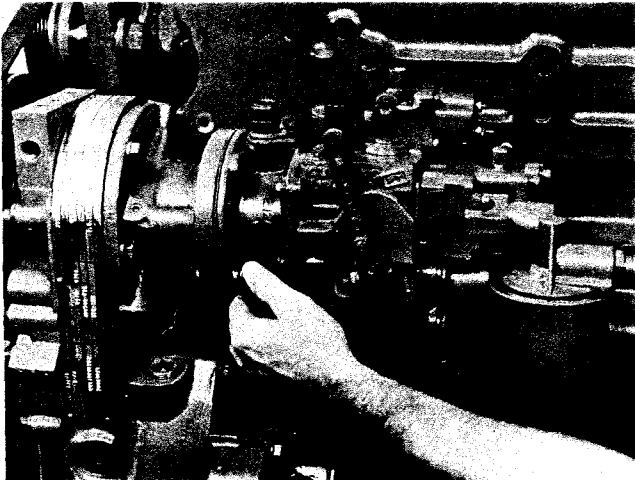

Fig. 14-50, (N114278). Installing fuel pump
1. Position and secure fuel pump to fuel pump drive or air compressor with new gasket and buffer or spline in place; use same part number as removed. Tighten fuel pump mounting screws to 30 to 35 ft-lbs [41 to 47 N•m]. Fig. 14-50.